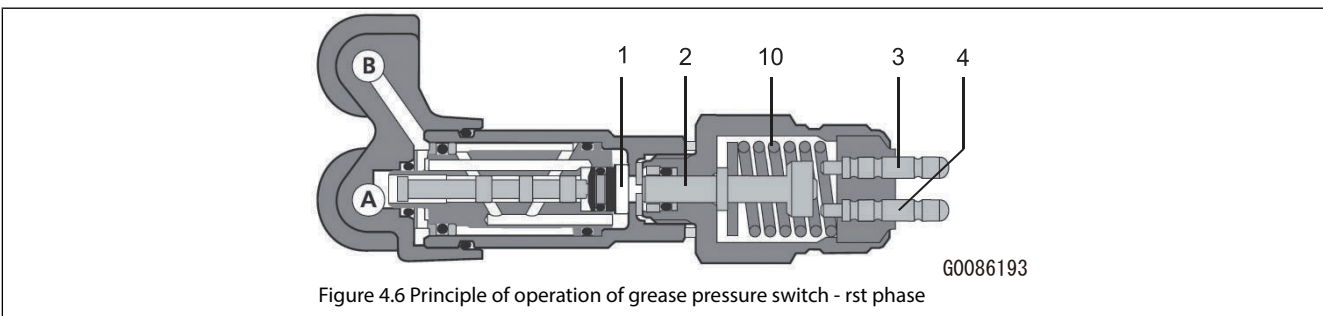

Figure 4.6 Principle of operation of grease pressure switch - first phase
During this phase both channels A and B are not under pressure (see figure 4.6). There is also no pressure in chamber (1). Spring (10) pushes switch plunger (2) to the left. The electrical contact (3 and 4) is open.